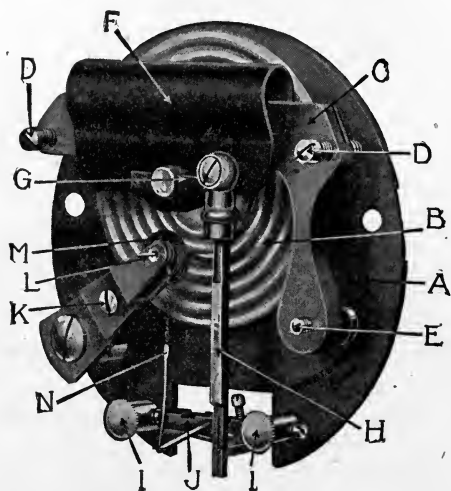

FIG. 44.
- A. Metal or base plate upon which parts are set. Fig. 44.